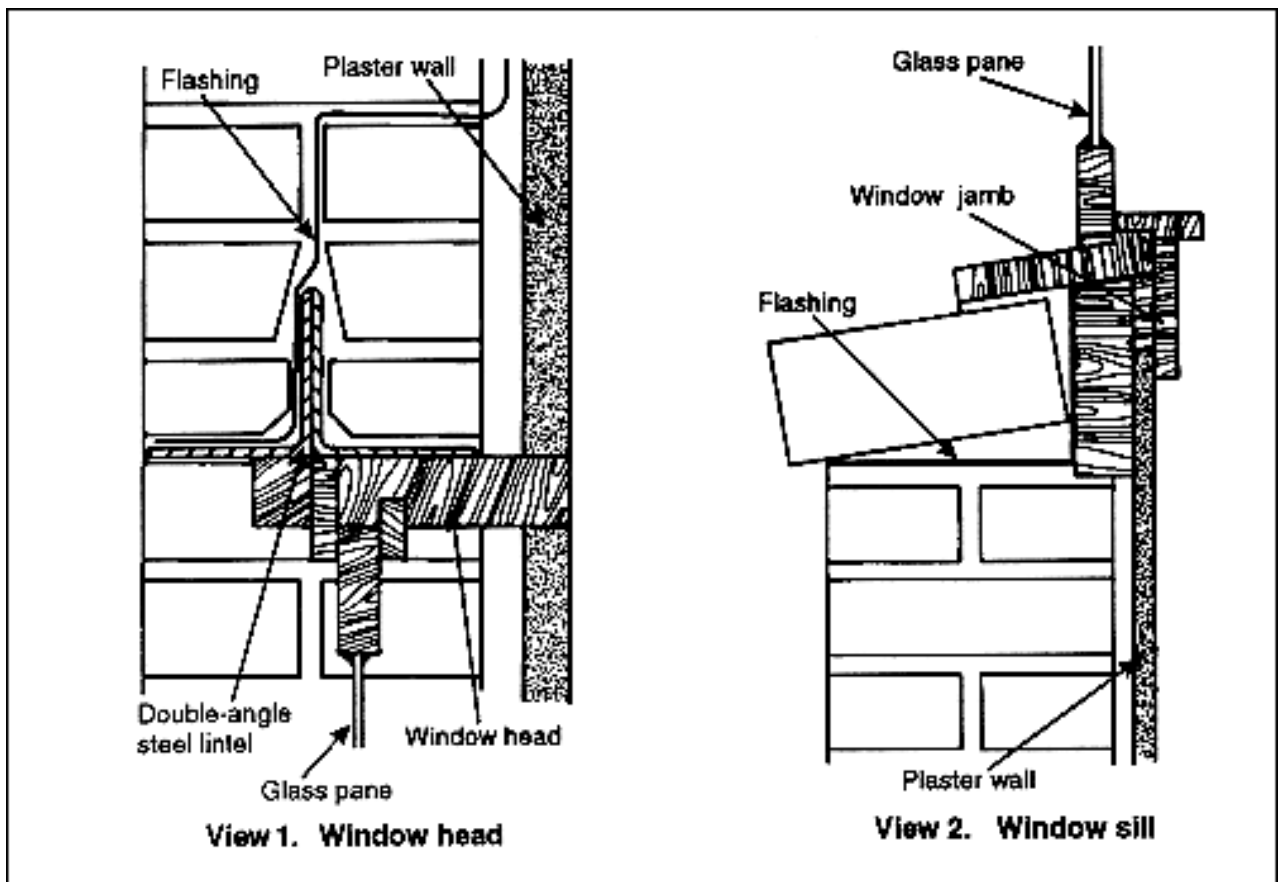

Figure 9-42. Installing flashing at window opening
9-103. Install flashing at both the head and sill of window openings and at the intersection between a wall and roof. The flashing edges should turn upward as shown in Figure 9-42 to prevent drainage into the wall. Always install flashing in mortar joints. You can provide drainage for the wall above the flashing either by placing 1/4-inch cotton-rope drainage wicks at 18-inch spacings in the mortar joint just above the flashing or placing dowels in the proper mortar joint as you lay the brick and then remove them to make drainage holes. Where chimneys pass through the roof, the flashing should extend completely through the chimney wall and turn upwards 1 inch against the flue lining.
Step 2. Figure 9-42 above shows the proper flashing installations at both the head and the sill of a window. Note that the flashing fits under the face tier of brick at the steel lintel, then bends behind the face tier and over the top of the lintel.